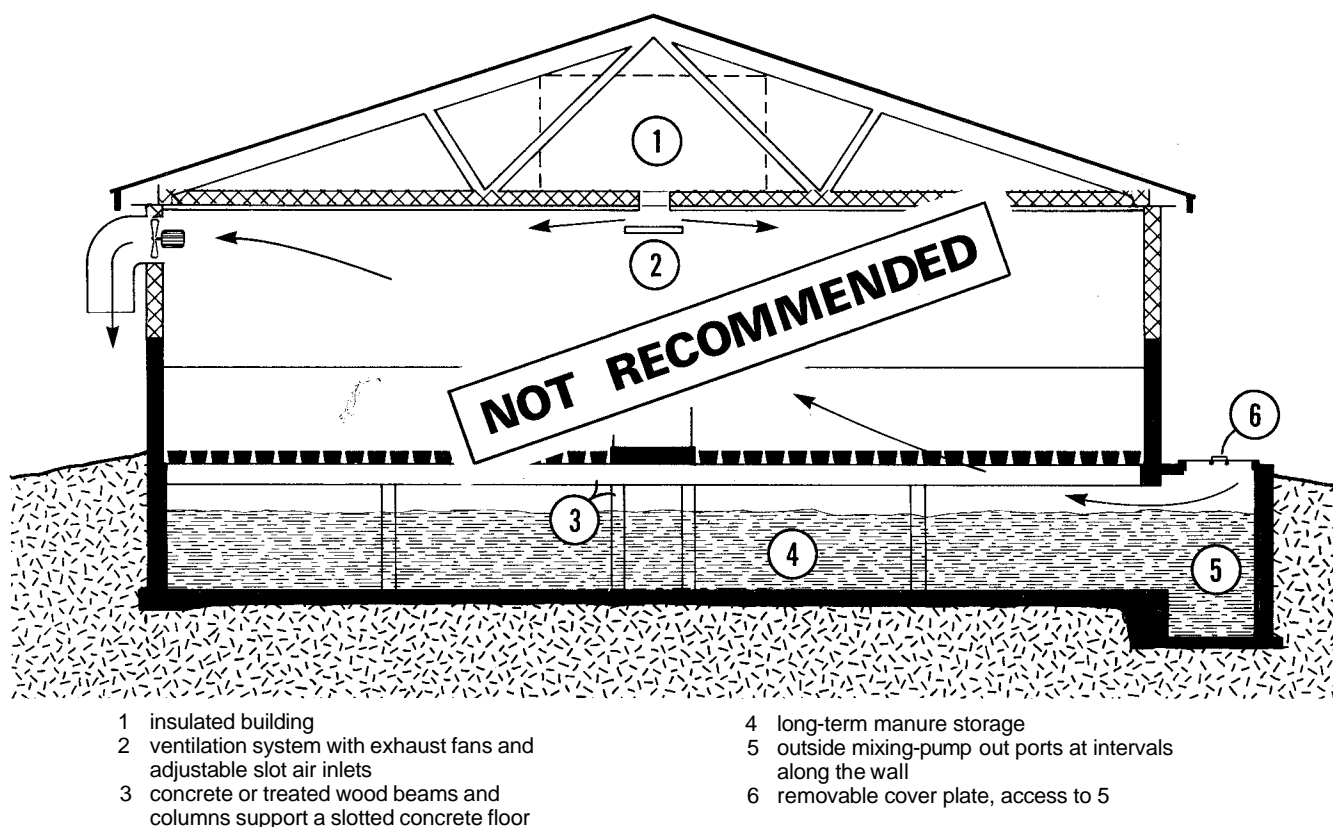

Figure 1 Totally slotted floor manure system with outside pumping pit for cleanout (not recommended)
SWINE BARNS Figure 1 shows a total-slotted floor system that was very popular some years ago for swine finishing (a somewhat similar arrangement was also used for confined beef production). This is not recommended now! The concrete
BEEF BARNS Confinement beef barns with deep manure storage under slotted floors (like Figure 1) have not been without manure gas problems (see 1966 example from Manitoba).
If you already have a dairy barn that operates like Figure 1, make sure that the outside hatch (6) is sealed airtight (for example, with a heavy steel cover with a soft rubber gasket). When pumping or flushing manure from under the slotted floors, remove the cattle and open all doors for natural ventilation.